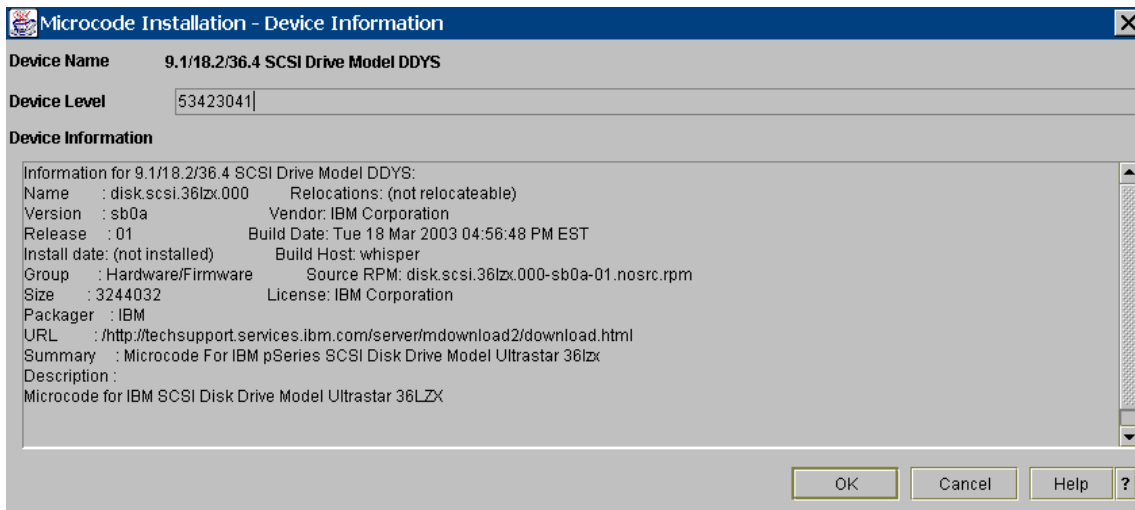

Figure 5-22 Microcode Installation - Device Installation
- It is also possible to view the details for each device. Highlight the device to be viewed and select **View Information**. The details of the device will then be shown as in Figure 5-22.